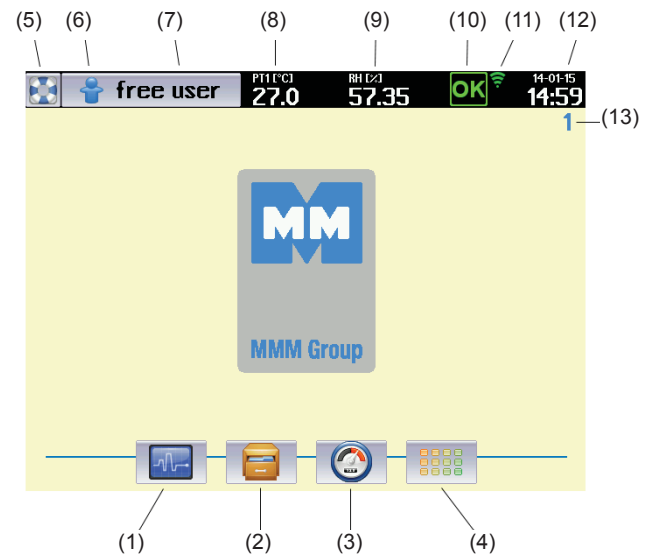

Fig. 12
In order for the device to be operated precisely as the user requires, it must first be set up. Click  (Fig. 12) to open the device settings screen.
- The field (7), Fig. 12, displays the words free user.
- The field (7), Fig. 12 displays the word admin.
- The field (7), Fig. 12, displays the word admin.
- o The field (7), Fig. 12, displays the operator name.
- o The field (7), Fig. 12, displays the word login.
administration. Clicking the  (Fig. 12) icon opens the login screen.